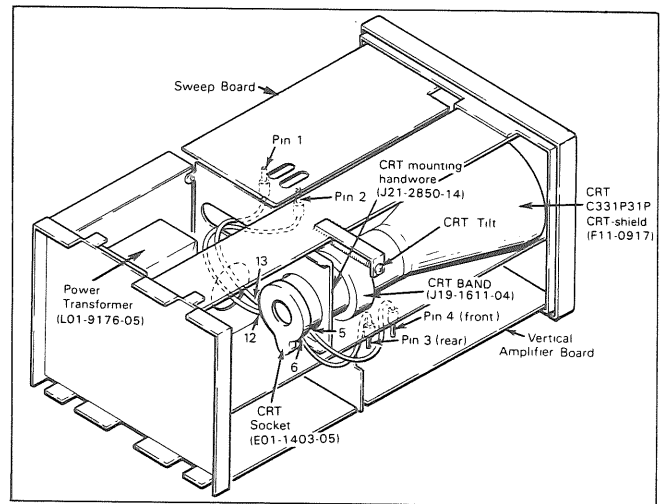

Fig. 5 X and Y deflection plate wiring scheme
5. Gently swing board away from chassis and disconnect plugs P1 and P2 and two white wires from CRT to pins 3 and 4 of vertical amplifier board. Refer to Fig. 5 when reconnecting CRT wires to board.
Refer to Fig. 5 for correct connections. The black wire ground connection is not needed in most cases. Use a clip lead if the added shielding effect is desirable.